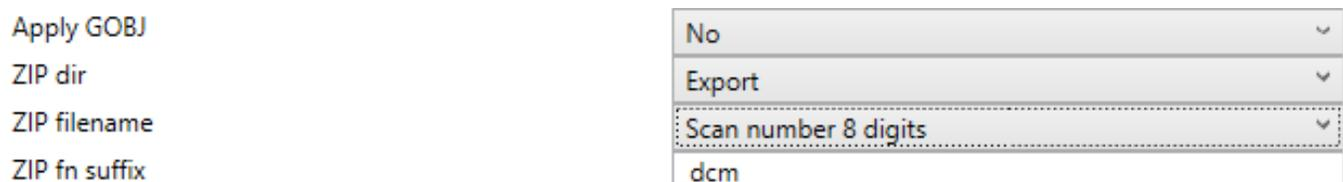

Figure 17: Screenshot of standardized ZIP settings for DICOM exports.
9. Select the “24 EX-003: Convert to DICOM” script from the script drop-down menu located at the bottom right region of the “Tasks” tab → ensure the ZIP settings, located under the script drop-down menu, are identical to Figure 17, which has been standardized for DICOM exports → select the “Start Task” button and click “OK” once “Task submitted successfully” appears. *Each measurement has a specific scan number, which is displayed in the window title “SCANCO Evaluation # / # / scan number /...” Record this number down as it must be used to identify your DICOM file(s) upon retrieval.
3. Locate a file with an extension name of “cort_seg.aim” (cortical) or “trab_seg.aim” (cancellous) under the appropriate measurement number (Figure 17). Double left-click on the file of interest and click “Start” in the bottom left-hand corner to load the 3D image. Please wait until the image has fully loaded BEFORE exporting or altering the image (blue loading circle returns to the white mouse cursor). Please see 6.2 *Orienting a 3D Object for information regarding how to edit the orientation of your 3D image.*